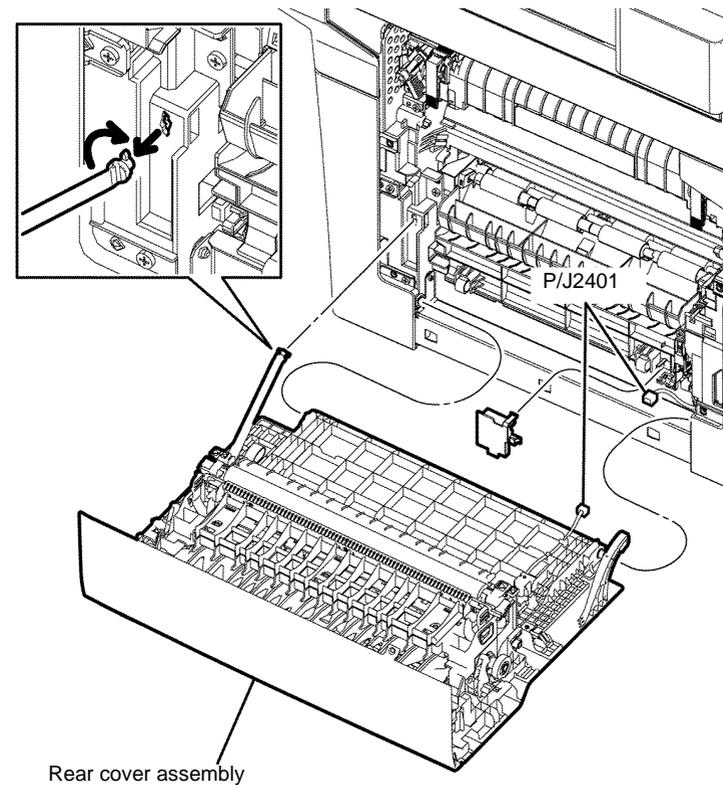

Figure 1 Rear cover assembly removal
4. Remove the stopper that fixes the rear cover assembly, by rotating the stopper in the arrowed direction, Figure 1.
5. Release the hook on the rear cover assembly. Release one of the bosses from the hole on the printer, remove the DTS out earth spring, then remove the rear cover assembly, Figure 1.